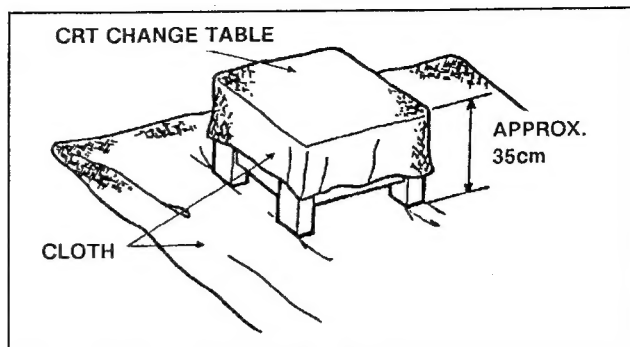

Fig. 3
- 1. Putting the CRT change table on soft cloth, the CRT change table should also be covered with such soft cloth. (shown in Fig. 3)